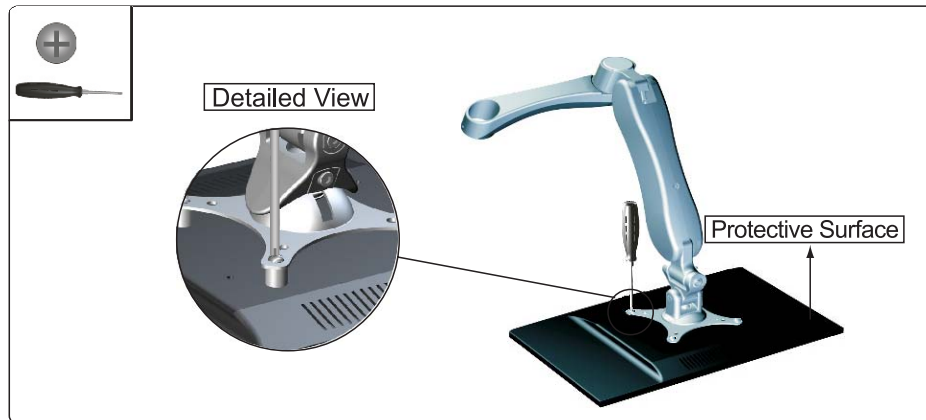

Figure 2-4
5. Using Philip Screwdriver, install selected Screws (6) through mounting holes on Tilter Mount Bracket and Spacers (4), finally into the display monitor. Tighten Screws with Philip Screwdriver so the Tilter Mount Bracket is firmly attached to the display monitor. Do not over tighten the Screws. Stop immediately if you encounter any resistance. (See Figure 2-4)